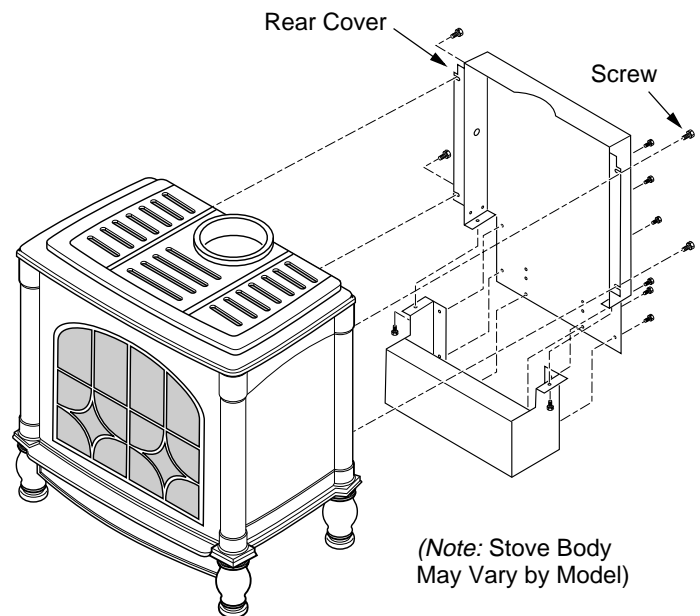

Figure 22 - Removing/ Installing Rear Cover
1. Remove 4 hex bolts securing rear cover to back of stove body (see Figure 22).
2. Separate bottom cover from rear cover by loosening the 8 mounting screws (see Figure 22).
15. Reattach bottom cover to rear cover with 8 screws (see Figure 22, page 8). Make sure that you don't pinch any wires during reassembly.
16. Secure rear cover to back of stove chassis (see Figure 22, page 8).